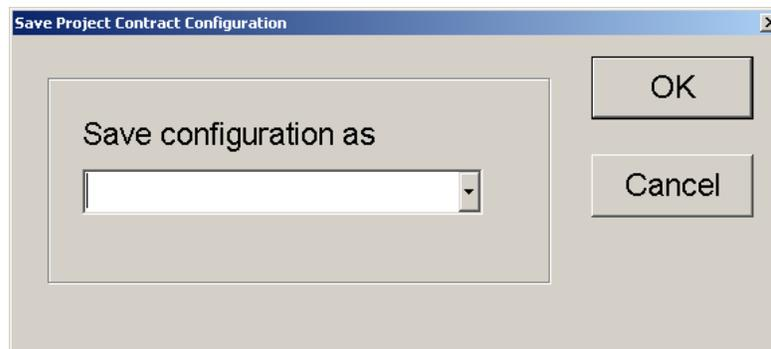

Figure 1.52 Save Configuration Window.
1. Click on **Configuration / Save Current** in the Project Report Window. The Save Configuration Window will appear as shown in Figure 1.52 prompting for a name.